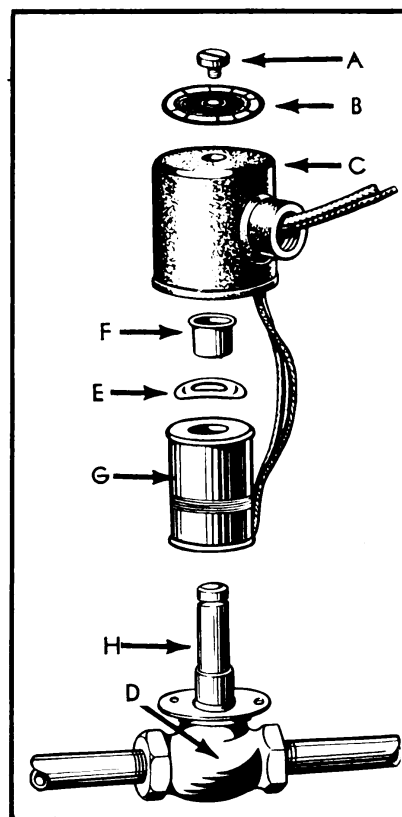

FIG. 38 Replacing Solenoid Valve Coil
Stop engine and disconnect wiring to solenoid valve at generator terminal box and manual switch. Unfasten flexible tubing and remove squeeze connector from coil housing. Remove screw (A) and nameplate (B) from coil housing (C). (See Fig. 38). Housing can then be lifted off of valve body (D). With a screwdriver, pry off steel washer (E) and bushing (F) that secures coil (G) to plunger guide tube. The coil can now be removed and a new coil inserted.